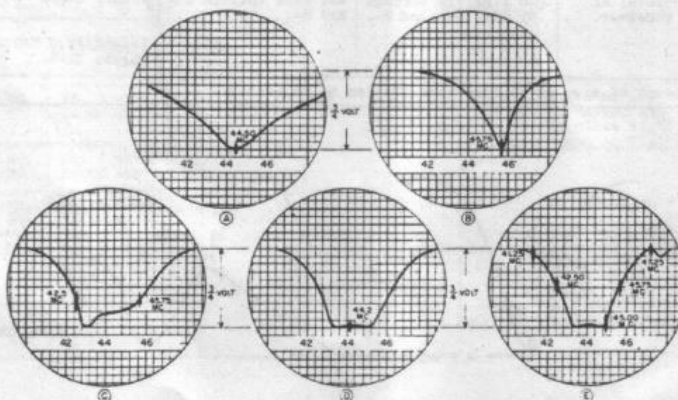

Fig. 21. Video I-F Curves
5. In most cases it is only necessary to perform an over-all alignment of the video i-f, as in Step 7 of the Video Alignment Chart, to obtain i-f response curve of Figure 21-E.